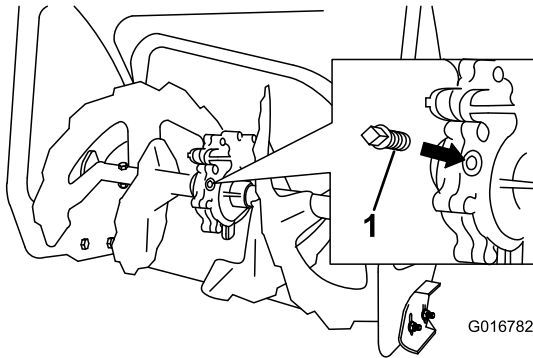

Figure 38
- Clean the area around the pipe plug (Figure 38).